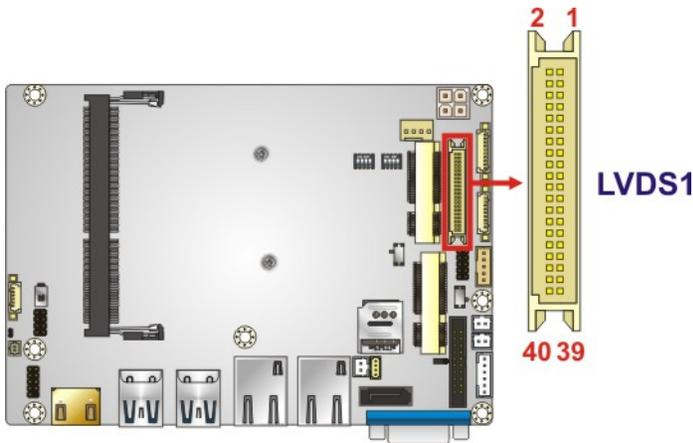

Figure 3-10: LVDS Connector Location
- CN Location:** See Figure 3-10